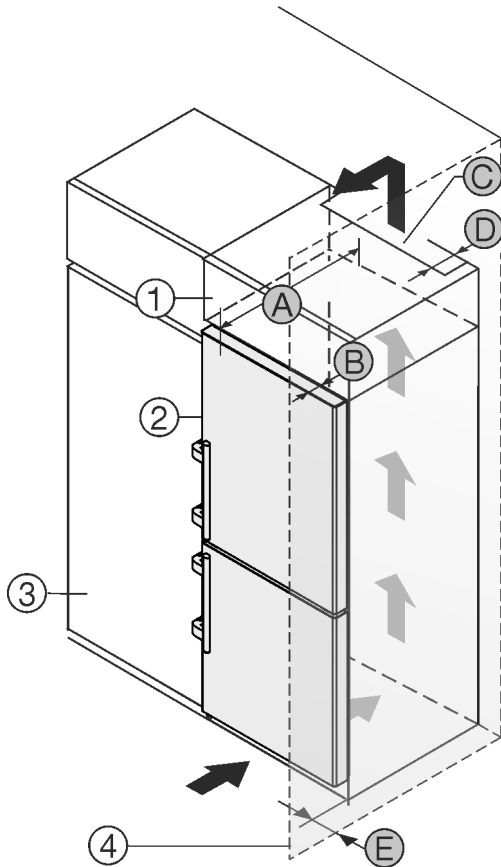

Fig. 1
- (1) Top cabinet
- (2) Appliance
- (3) Kitchen cabinet
- (4) Wall
- (A) Appliance depth
- (B) Door depth
- (C) Ventilation cross-section
- (D) Distance to the rear of the appliance
- (E) Distance to the side of the appliance
You can place the appliance directly beside the kitchen cabinet Fig. 1 (3).
There must be a ventilation shaft at the depth Fig. 1 (D) of the back of the top cupboard over the entire width of the top cupboard.
The cross section of the ventilation gap Fig. 1 (C) must be maintained below the ceiling.
If the appliance is set up with the hinges next to a wall Fig. 1 (4), the distance between the appliance and the wall must be at least 57 mm (2 1/4 in) . This is how far the handle protrudes when the door is open.
In order to be able to fully open the door, the appliance must protrude by the depth of the door Fig. 1 (B) from the front of the kitchen cabinets Fig. 1 (3) and use of wall spaces, the appliance can protrude further.